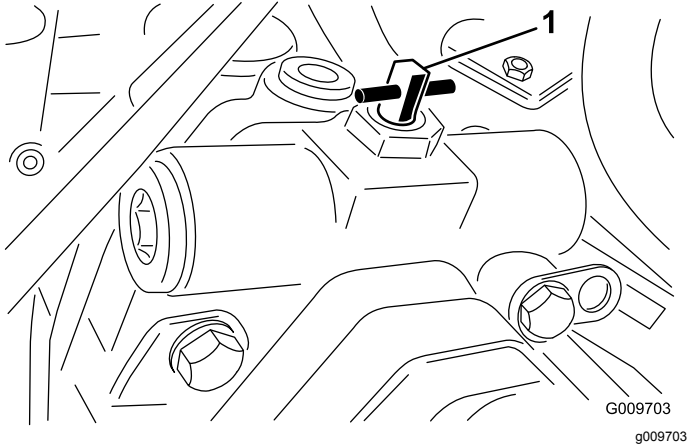

Figure 40
3. Rotate the bypass valve 90° (1/4 turn) in either direction to open it and allow fluid to bypass internally (Figure 40).
2. Rotate the bypass valve 90° (1/4 turn) in either direction to open it and allow fluid to bypass internally (Figure 40).